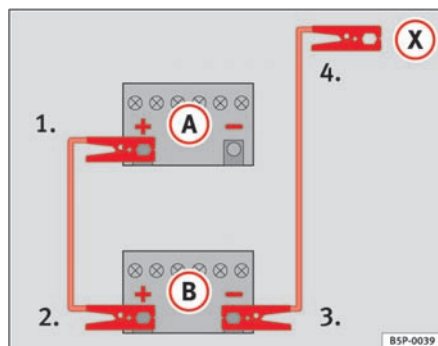

Fig. 148 How to connect the jump leads
In ⇒ fig. 148 (A) the flat battery is represented and in (B) the charged battery is represented.
1. Connect one end of the red jump lead to the positive ⇒ fig. 148 (+) terminal of the vehicle with the flat battery ⇒ ⚠.
4. Connect the other end of the black jump lead (X) to a solid metal component which is bolted on to the engine block, or onto the engine block itself of the vehicle with the flat battery. Do not connect it to a point near the battery ⇒ ⚠.